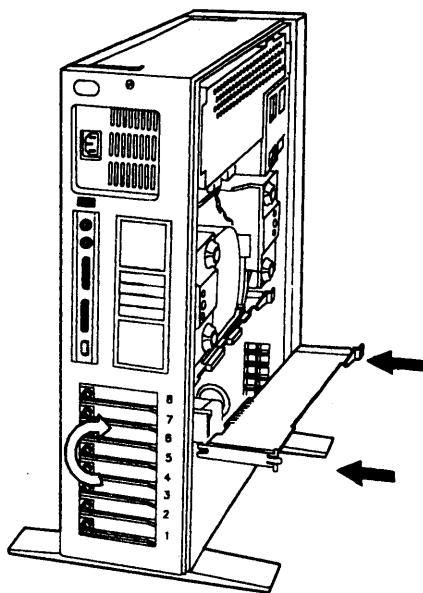

Figure 23: Installing the Tape Controller Card in the Model 60
16. Install the tape controller card into your expansion slot as shown in Figure 23.